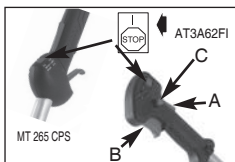

Fig. 9B
1. Press ON/OFF switch to the "RUN (I)" position (Fig.9B).
- 3b. For Bike handle "↗", set throttle lock (C): Press the lockout switch (A) down and then holding trigger (B) at partially open position, press down and hold throttle lock (C). Release throttle trigger (B). Throttle trigger (B) will now remain in the partially depressed position (Fig. 9B). (AT3A62FI)